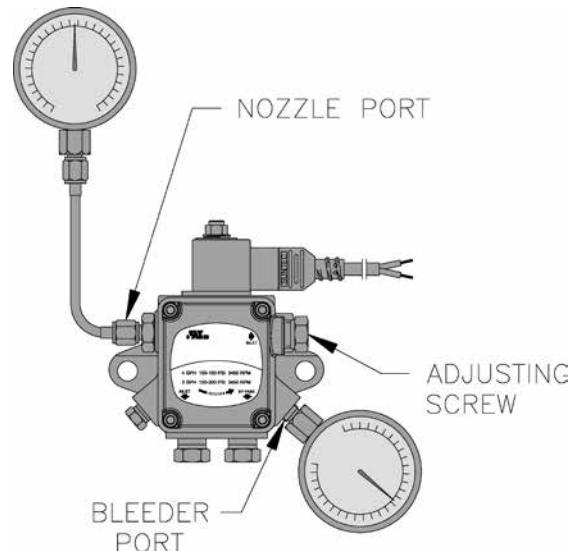

Figure 16: Adjusting Fuel Pump Pressure
a. When checking a fuel unit's operating pressure, a reliable pressure gauge may be installed in either the bleeder port or the nozzle port. For Beckett burner refer to Figure 16.